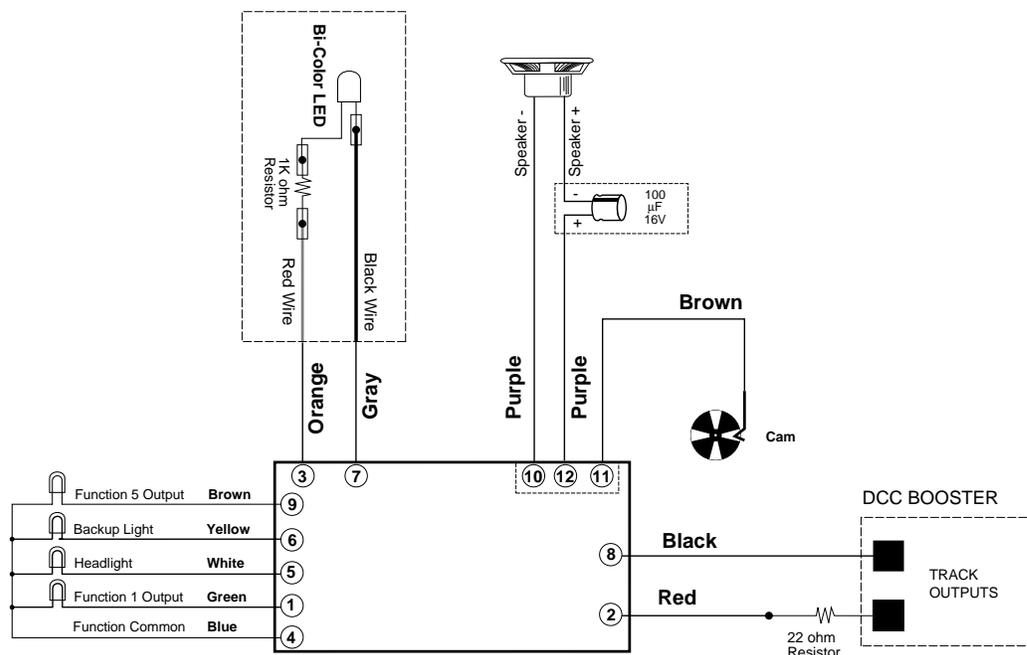

Figure 2 - General Hookup Procedure
4. Connect the other purple lead (pin 12) to the positive (+) speaker terminal. A 100 μ F, 16V capacitor must be wired in series as shown in Figure 2.